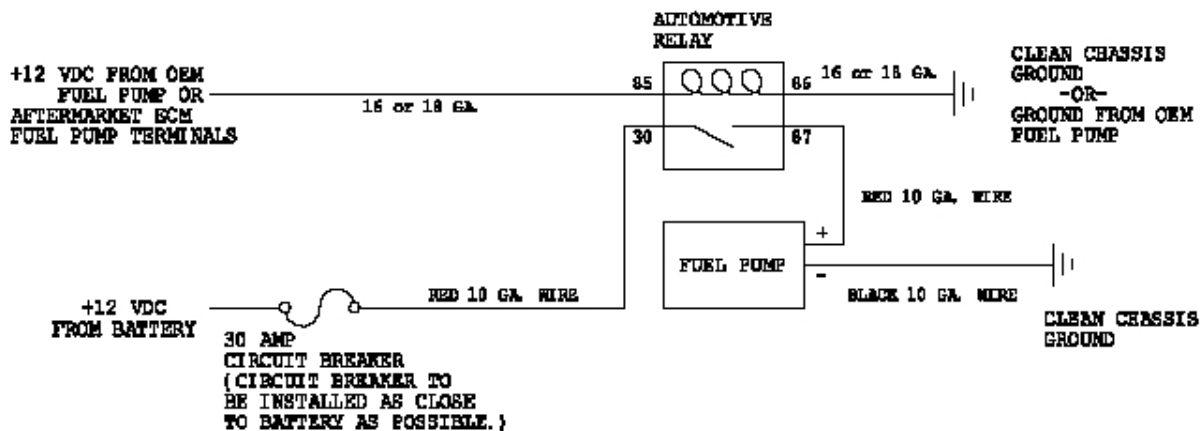

FIGURE 1-6
- 1-14. Attach the OEM fuel pump wires (These typically are the red and black wires from the OEM wiring harness going to the fuel tank) to relay terminals 85 and 86 using the supplied blue female blade connectors (See Figure 1-6 Below).
- 1-21. Ensure that electrical components and wires are connected properly (See **FIGURE 1-6**) and are clear of any moving suspension or drivetrain components and any exhaust components! **IMPORTANT:** Route wires carefully to protect them from damage due to abrasion and road obstructions or debris.